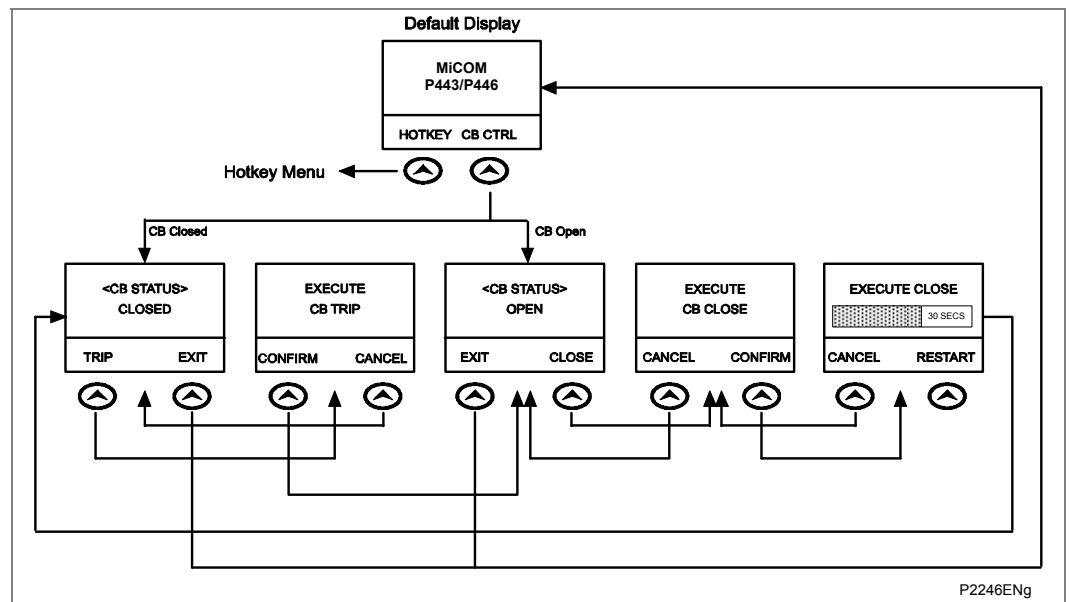

Figure 108 - CB control hotkey menu
- Figure 108 - CB1 condition monitoring - broken current